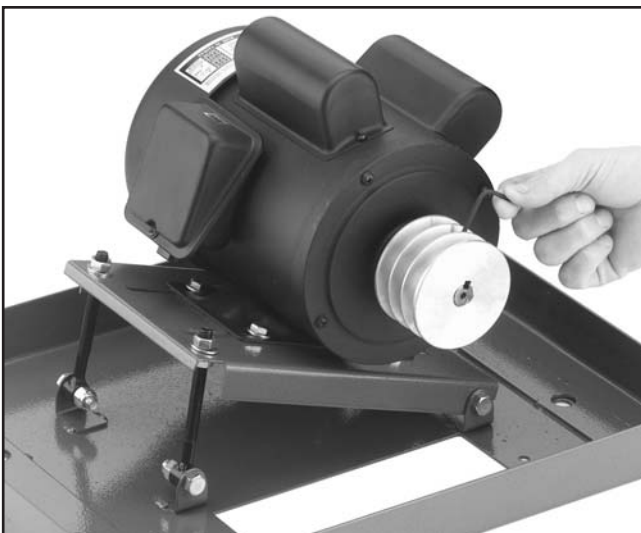

Figure 6. Securing motor pulley to motor shaft.
4. Mount the motor onto the motor bracket. Secure with (4) $\frac{5}{16}$ " -18 x $\frac{3}{4}$ " hex head bolts, washers and nuts. Hand-tighten for now.
5. Place the smallest key in the groove on the motor shaft. Line up the key on the shaft with the pulley keyway. Slide the motor pulley (the small triple-grooved pulley) onto the motor shaft. Insert one of the small $\frac{1}{4}$ "-20 x $\frac{1}{4}$ " setscrews in the bottom of the middle pulley groove and tighten with the included 3mm hex wrench as shown in **Figure 6**.